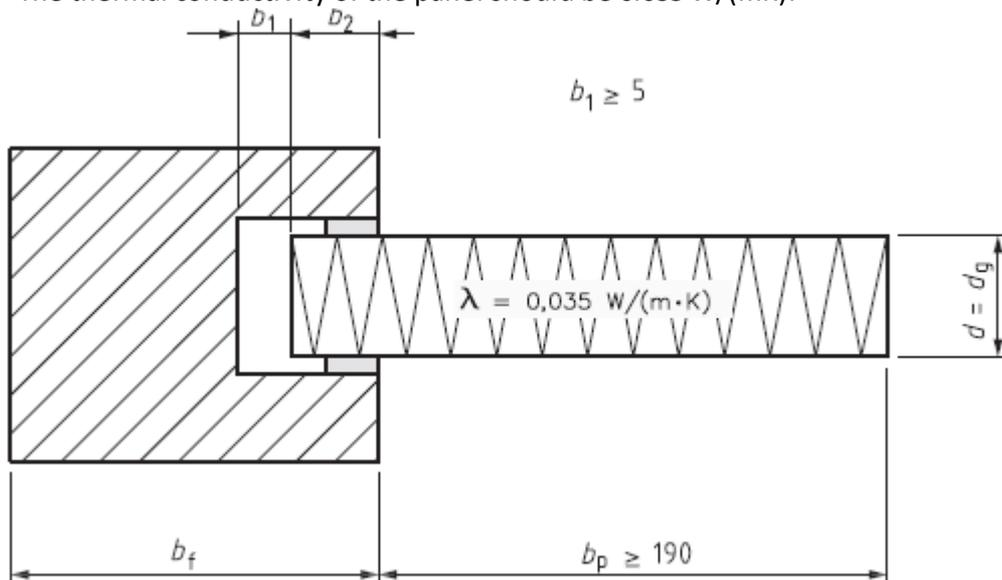

Figure 2
For the calculation of the frame U-value according to the European standard EN ISO 10077-2, the glass unit has to be replaced by a panel (cf. figure 2) with the following characteristics:
- According to EN ISO 10077-1, the measurements b_2 and b_p should correspond to the larger of the two projected widths of the frame section, without taking into account the stripping between the frame and glass unit or panel (cf. figure 2).